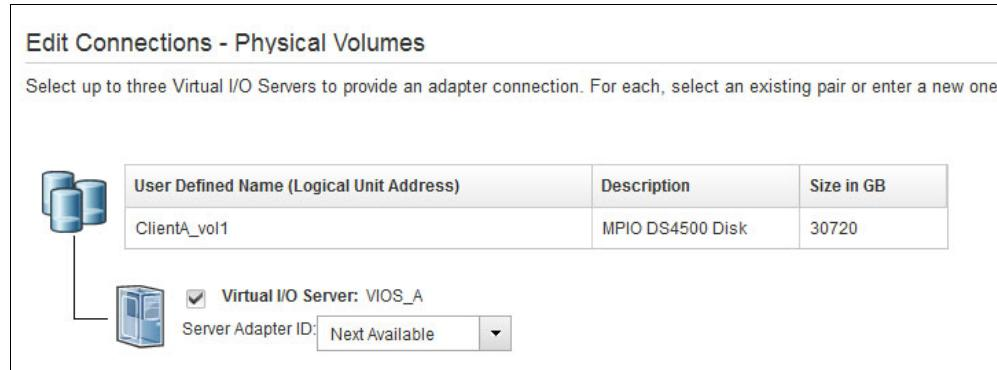

Figure 2-101 Deployment: Virtual SCSI Connections - Single
10. To associate multiple volumes with a single virtual SCSI connection, select only one volume at the time of deployment, as shown in Figure 2-101. After the logical partition is created, use the logical partition management functions to add the additional volumes to the created virtual SCSI connector.